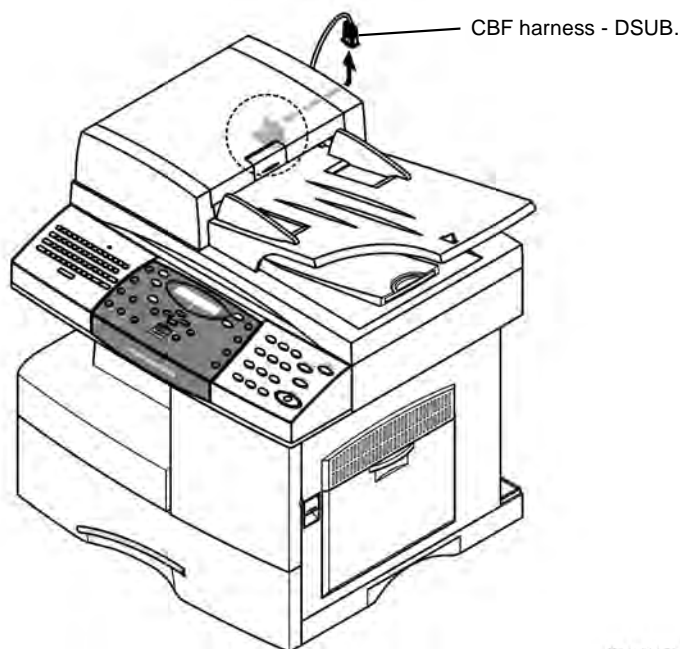

Figure 1 CBF harness - DSUB
1. Disconnect the CBF harness - DSUB, Figure 1.